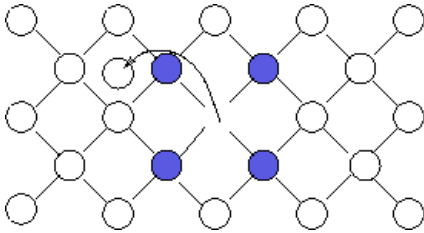

Figure 67 Example of FT mechanism: an  $As_4$  cluster can emit an interstitial to become an  $As_4V$  impurity cluster: blue is arsenic and white is silicon
Sentaurus Process KMC includes the FT mechanism to maintain microscopic reversibility. Since impurity clusters recombine incoming *I*s or *V*s, the opposite mechanism (FT) also is needed. Usually, this mechanism is unfavorable, but for some particular configurations, the energetic differences between them can enable the formation of *IV* pairs and, therefore, the emission of particles using the FT mechanism (see Figure 67).